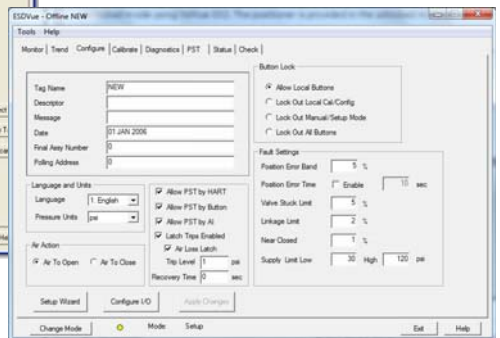

Figure 20 Checking Pushbutton Locks Using ValVue ESD
1. Select the installed ESD positioner from the list of *Connected Devices* as shown in Figure 20 and click **Connect**.